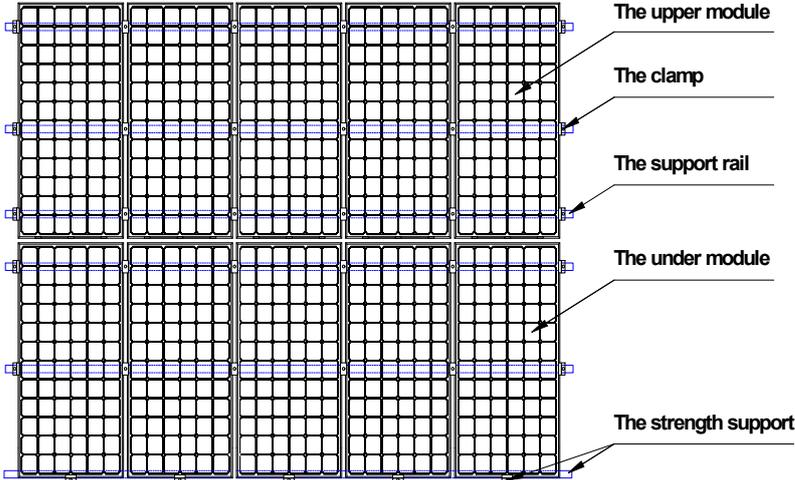

FIG 2 Schematic diagram of reinforcement mounting of module
6.2.1.3 For the roof system installed in the area with relatively heavy snowfall or snow cover in the meteorological records, the installer shall reinforce the supporting system at the lower frame of the module, in order to prevent the lower frame from being pressed and damaged by the falling snow or freezing of the melt ed snow. LN solar suggests selecting the support reinforcing mechanism shown in Figure 2.